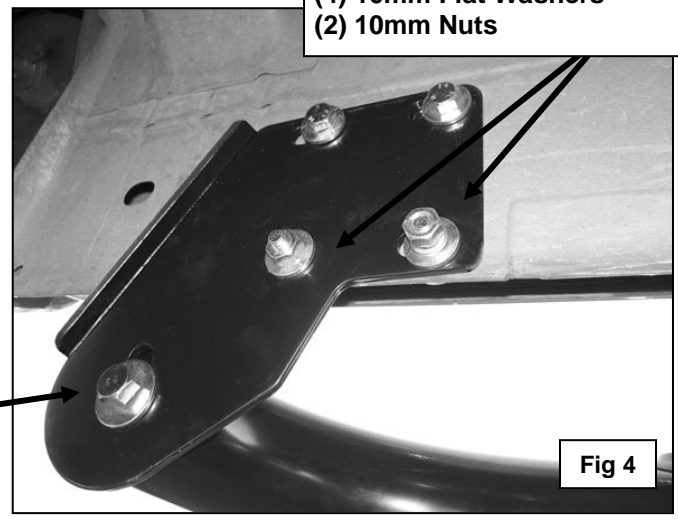

Fig 4
6. With assistance, carefully place the Sidebar into position and attach it to the Mounting Brackets using the included (2) 1/2" x 2" Hex Bolts, (2) 1/2" Lock Washers and (2) 1/2" Flat Washers, **(Figure 4)**. **NOTE:** If properly installed, the Side Bar mounting slot on the Mounting Brackets will be vertical, **(Figure 2 & 4)**.